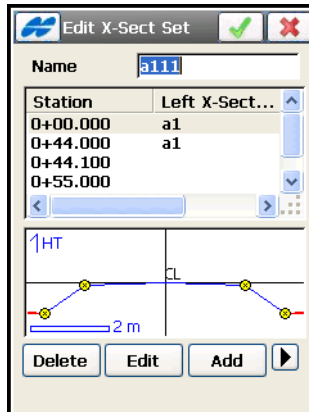

Figure 7-26. Add Cross Section Set
4. On the *Edit X-Sect Set* screen (Figure 7-26 on page 7-21), enter the name of the new cross-section set and tap the **Add** button to add cross-section to the set.